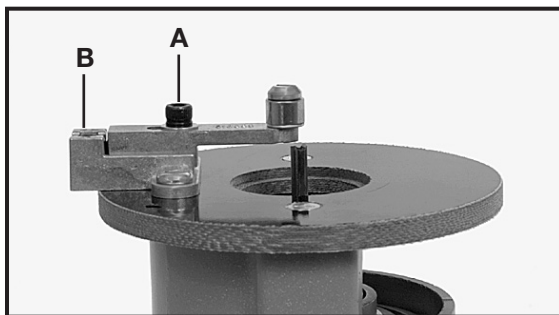

Fig. 4
6. Align roller guide with bit by loosening locking screw (A) Fig. 4, and turning adjusting screw (B) Fig. 4, (with hex wrench provided), until guide is in desired location.